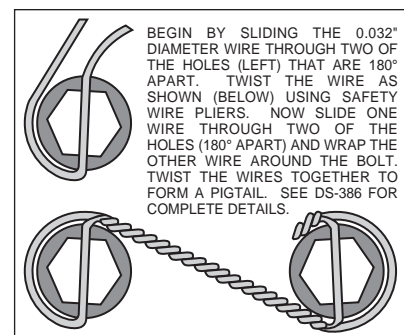

Figure 3. Safety Wire Diagram
- The flat caliper mounting bracket (1) should be installed first with clean, dry threads on the mounting bolts. Install the bracket by sliding bolt (2) through washer (3) through the top hole of the mounting bracket (1) and into the upper hole on the spindle. Slide bolt (4) through the small hole on the spindle from the backside and through the corresponding hole on the bracket (1). Slip flat washer (5) onto the bolt and secure with lock nut (7). Finger tighten only at this time. The bracket must tighten squarely against the outboard side of the spindle body. Inspect for interference from casting irregularities, machining ridges, burrs, etc. Later, after the caliper, pad, and rotor alignment has been checked, and any necessary shims have been put in place, the threads of mounting bolt (2) should be coated with red *Loctite*[®] 271 and torqued to 120 ft-lbs. Lock nut (7) will be torqued to 65 ft-lbs.
- Install wheel studs (8) into the hub (9). Torque to 77 ft-lb. **NOTE:** There are two five lug patterns in the hub (5 x 4.50 and 5 x 4.75). Make sure of the correct hole pattern for the correct wheel application before installing studs into hub.
- Pack the large inner bearing cone (10) with high temperature disc brake bearing grease (available from your local auto parts store) and install into the backside of the hub (9).
- Install the grease seal (11) by pressing into the backside of the hub (9).
- Pack the small outer bearing cone (17) with high temperature disc brake bearing grease and install into front of hub (9). Slide the hub assembly (8, 9, 10, 11 and 17) onto the spindle. Secure using spindle washer (18), stock adjusting nut and nut locking device. Bearing adjustment: Tighten the nut while turning the hub. When there is a slight bind on the bearings, they are seated correctly. Back the nut off about 1/6 to 1/4 of a turn, or sufficiently to allow .001" to .007" end play. **WARNING:** Failure to back off adjusting nut could cause bearing to run hot and be damaged, which could cause the wheel to lock or come off.
- Install the o-ring (19) on the dust cap (20), and screw dust cap assembly onto the hub (9). Friction created by the o-ring (19) on the dust cap (20) keeps it from unscrewing.
- With the larger I.D. side of the rotor (12) facing away from the hat (13), bolt rotor (12) to hat (13) through the backside of the rotor using washers (14) and bolts (15). Using an alternating sequence, apply red *Loctite*[®] 271 to the threads and torque bolts to 155 **in-lb**. For an added measure of security, the bolts may be safety wired using standard 0.032 inch diameter stainless steel safety wire as shown in Figure 3. Please refer to Wilwood's data sheet DS-386 (available at www.wilwood.com/Pdf/DataSheets/ds386.pdf) for complete safety wire installation instructions.
- Slide the rotor/hat assembly over the studs (8) in the hub (9) taking care to align the small countersunk holes in the hat (13) with the small threaded holes in the hub (9). Install three flat head socket head screws (16) through the small holes in the hat (13) and torque to 85 **in-lb**.